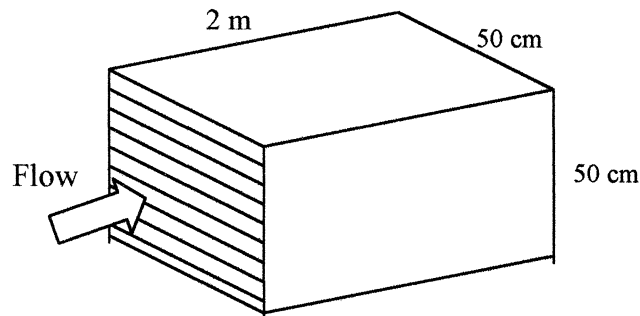

Fig. P6.97
**6.97** A heat exchanger consists of multiple parallel-plate passages, as shown in Fig. P6.97. The available pressure drop is 2 kPa, and the fluid is water at 20°C. If the desired total flow rate is 900 m3/h, estimate the appropriate number of passages. The plate walls are hydraulically smooth.